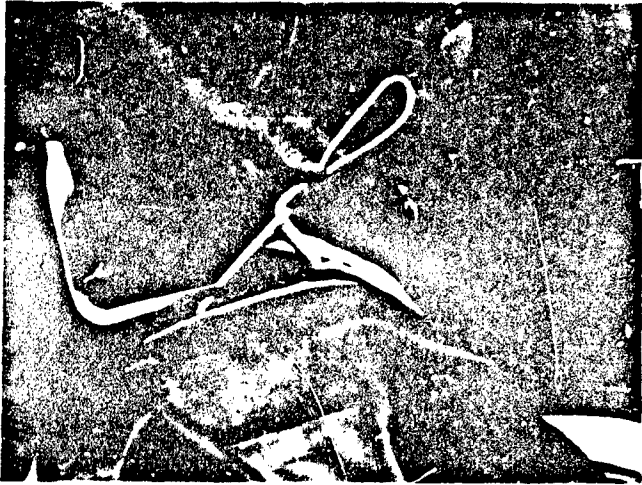

Figure 23. Pull back towards the first lace
9. Pull the red longer lace back towards the first lace (Figure 23) and pull taut (Figure 24).